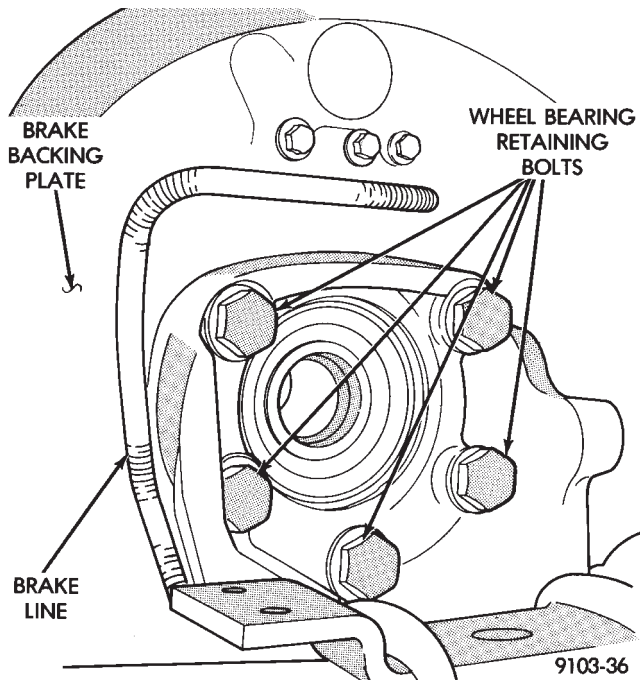

Fig. 5 Wheel Bearing Mounting Bolts
(7) Remove wheel bearing mounting bolts (Fig 5).